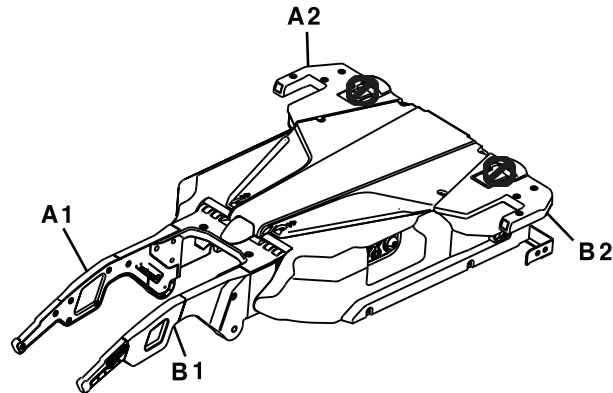

Figure 3:
- a. Carefully lift the trolley assembly by its arm and wing. Do not lift the trolley by the manual cot release handles. Lift only where indicated. Installer 1, position hands at A1 and A2. Installer 2, position hands at B1 and B2 (Figure 3 on page 2).